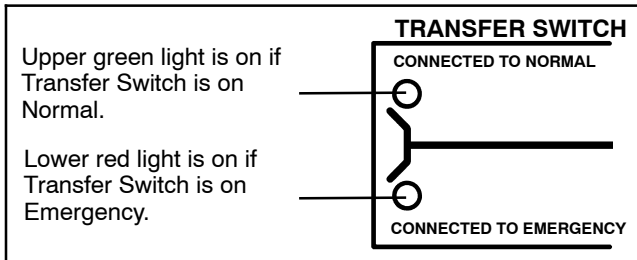

Figure 7-9 Status Lights for Transfer Switch Main Contact Position
1. Observe which *Transfer Switch Connected To* light is on (*Normal* or *Emergency*) on the door. This is the position of the transfer switch. See Figure 7-9.